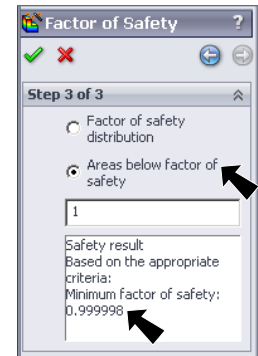

Fig. 8
Step 2. In the Factor of Safety Property Manager click **Next**  and **Next** , **Fig. 8**.